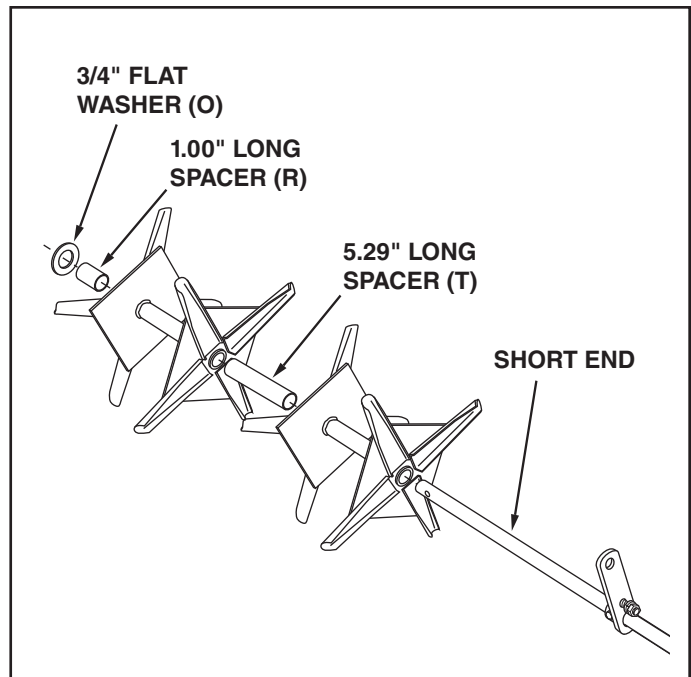

FIGURE 3
5. Assemble a spool assembly, a 5.29" long spacer (T), another spool assembly, a 1.00" long spacer (R) and a 3/4" flat washer (O) onto the **short end** of the shaft. See figure 3.